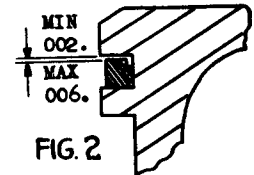

FIG. 2
7. **CHECK RING SIDE CLEARANCE**—All rings must be free in the grooves. Top rings must have at least .002 and not more than .006 side clearance, (Fig. 2). Oil rings can have a minimum of .0015 clearance.